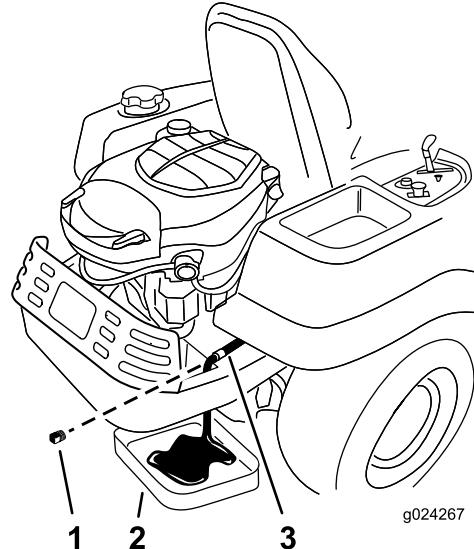

Figure 30
4. Locate the oil-drain hose on the left side of the engine. (Figure 30).
6. Place a drain pan underneath the machine, directly below the oil-drain hose as shown in Figure 30.
7. Using 2 wrenches (one to hold the oil-drain hose and one to loosen the plug), remove the oil-drain plug (Figure 30).
- Wipe up any excess oil (Figure 30).